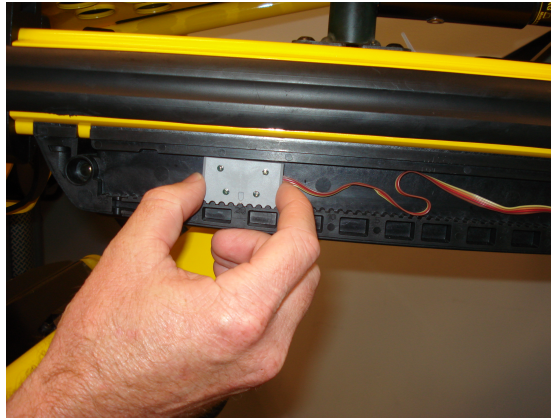

Figure 12 – Adjust left sensor height
3. Adjust the left height sensor only inside the sensor housing (Figure 12):